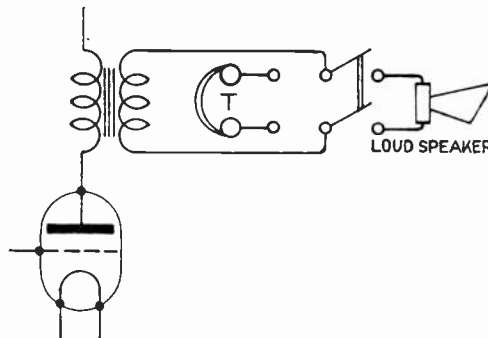
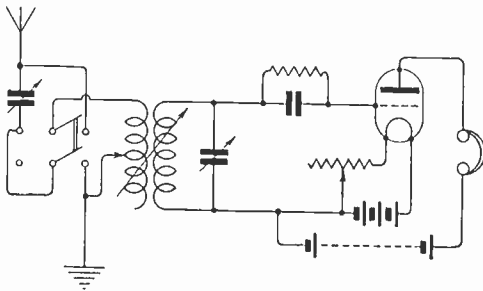

Fig. 4.
Fig. 5.
amplification followed by one L.F. amplifier. You might find it rather difficult to manipulate four stages of H.F. amplification. Numerous circuits making use of this arrangement have been given in the recent issues of this journal under the "Questions and Answers" section; in particular, Fig. 10, page 743; Fig. 6, page 741; Fig. 5, page 740; Fig. 2, page 705; Fig. 4, page 706, etc. (2) Yes; you will obtain fairly good results with the arrangement you propose, though we always advocate the use of an outdoor aerial whenever possible. (4) Usually 0.0013 and 0.00045 mds., though one plate a little out of position may somewhat increase these values.
(1) See diagrams on page 879, September 30th issue, and Fig. 4. (2) and (3) If you are reacting into the closed circuit and the set is oscillating you will be causing a slight disturbance. The set must not oscillate to receive telephony. Your local society should be able to help you. (4) The generator noise you hear is due to the small voltage ripple superimposed on the direct current generated by the machine.
(1) See Fig. 5. You will need an additional inductance if you desire to receive C.W. signals. Read carefully all articles on "Experimental Station Design" in back numbers. (2) About 3,200 metres. (3) See article on H.F. unit amplifier with reaction in issue of September 30th, 1922.
(1) and (3) Aerial tuning condenser maximum 0.0015 mfd., closed circuit condenser maximum 0.0005 mfd., H.F. transformer tuning condenser maximum 0.0002 mfd., L.F. transformer by-pass condenser 0.001 mfd., grid condenser 0.0003 mfd., grid leak 2 megohms, reaction tuning condenser maximum 0.0004 mfd., battery by-pass condenser from 0.001 mfd. to 0.5 mfd. (2) The diagram, Fig. 4, September 23rd, 1922, issue which meets your requirements and can be thoroughly recommended. Anode tuning condensers should have a maximum value not exceeding 0.0002 mfd. Should you wish to experiment with H.F. transformers, we suggest you commence with those described in the article on "Experimental Station Design," September 2nd issue.
"S.A.X." (Preston).—(1) Enquires whether the circuit given on page 608, Fig. 5, August 5th issue, comes under the heading of those capable of energising the aerial, if so, for a rearranged
"S.A.X." (Preston) enquires (1) Whether the circuit given on page 608, Fig. 5, August 5th issue, comes under the heading of those capable of energising the aerial; if so, for a rearranged circuit using same